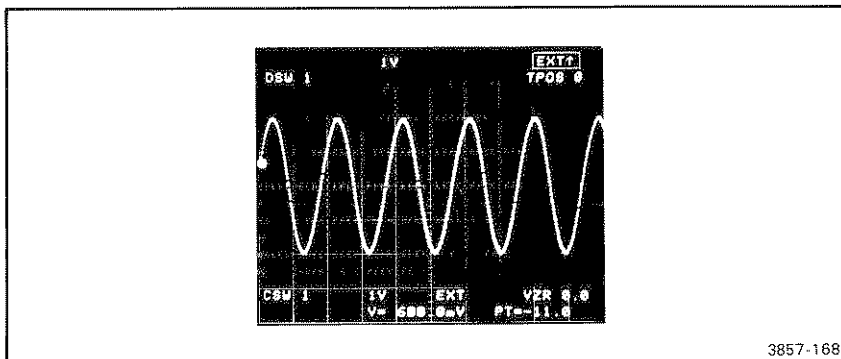

Figure 2-68. EXTERNAL clock readout.
This bnc connector permits the connection of an external clock signal to the 7D20. The 7D20 can accept a maximum clock rate of 10 kHz. In order for the EXT CLOCK connector to be functional, the TIME/DIV switch must be set to the EXT position by turning it counterclockwise until the readout indicates EXT \uparrow or EXT \downarrow in the upper right corner of the display (see Fig. 2-68). The arrow indicates the EXT CLOCK edge polarity. Clock edge polarity is selected via item 4 on the UTILITIES menu. Press MEMORY DISPLAY key 4 when the UTILITIES menu is displayed and the EXT CLK prompt will appear in the display. Press MEMORY DISPLAY key number 4 a second time and the arrow (indicating the EXTERNAL CLOCK polarity) will reverse direction. The indicator arrow will continue to reverse each time the number 4 MEMORY DISPLAY key is pressed so long as the UTILITIES menu is displayed.